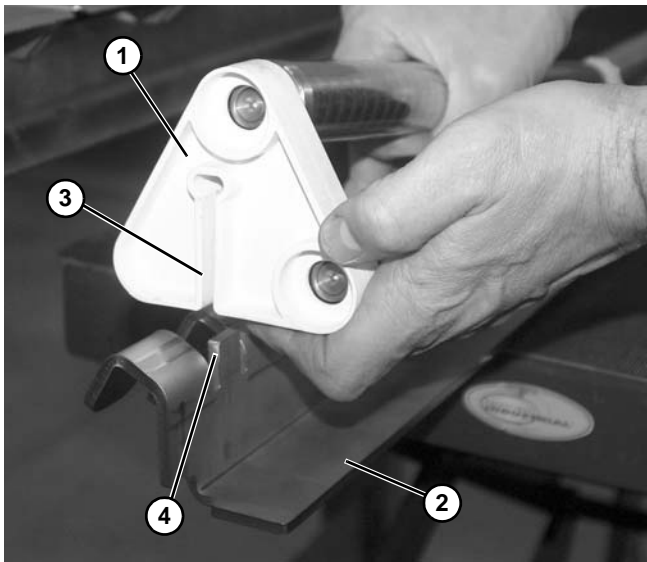

Figure 151
4. Pull the pivot tail blocks (**Figure 151, item 1**) off the mounting bracket (**Figure 151, item 2**), releasing slot (**Figure 151, item 3**) of pivot tail blocks from tab (**Figure 151, item 4**) on mounting bracket.